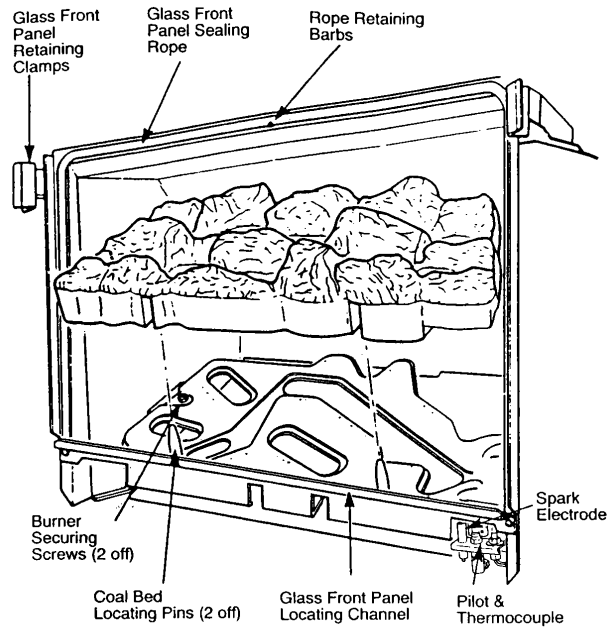

Fig. 10 Coal Bed
2. **Remove the glass front panel** (Fig. 10)
3. **Remove the coal bed** (Fig. 10)
4. **Remove the burner** (Figs. 10, 11 and 12)
GLASS FRONT PANEL (Fig. 10)
COAL BED (Fig. 10)
BURNER (Figs. 10,11 and 12)